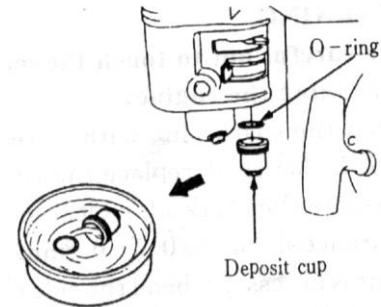

Fig. 27
3. Washing of Deposit Cup (Fig. 27)